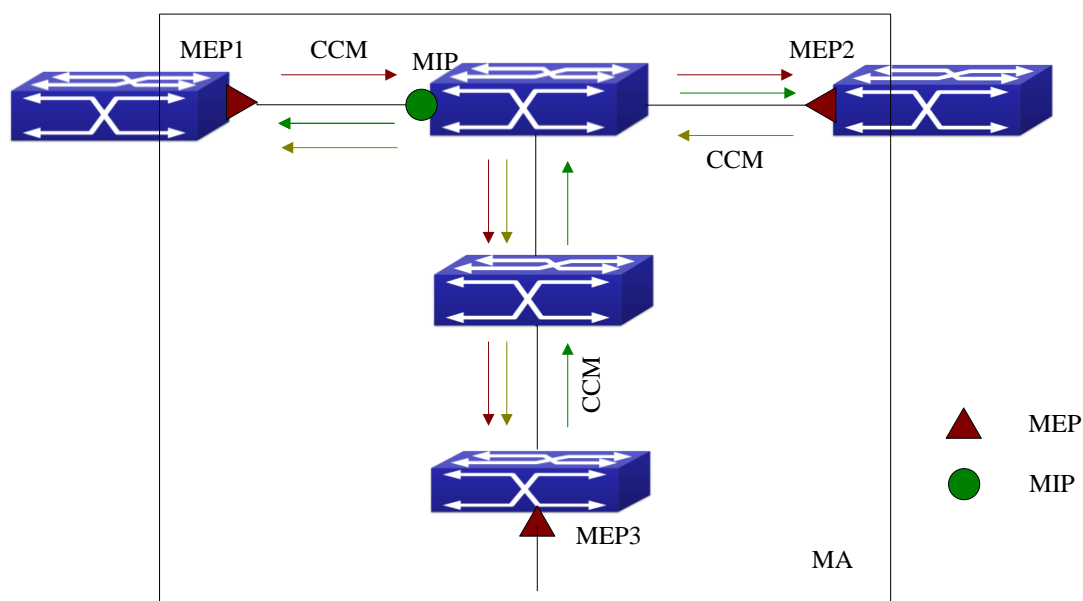

Fig 14-3 Connectedness inspection sketch map
Maintenance base point (MEP) will send the CCM messages to Remote MEP in the same maintenance collection (MA) periodically. At the same time, it also receives other outlying point CCM message. If it cannot receive the CCM message in 3 months, then it will regards as occur failure in the link and report. The process is shown as follow Fig 14-3 :